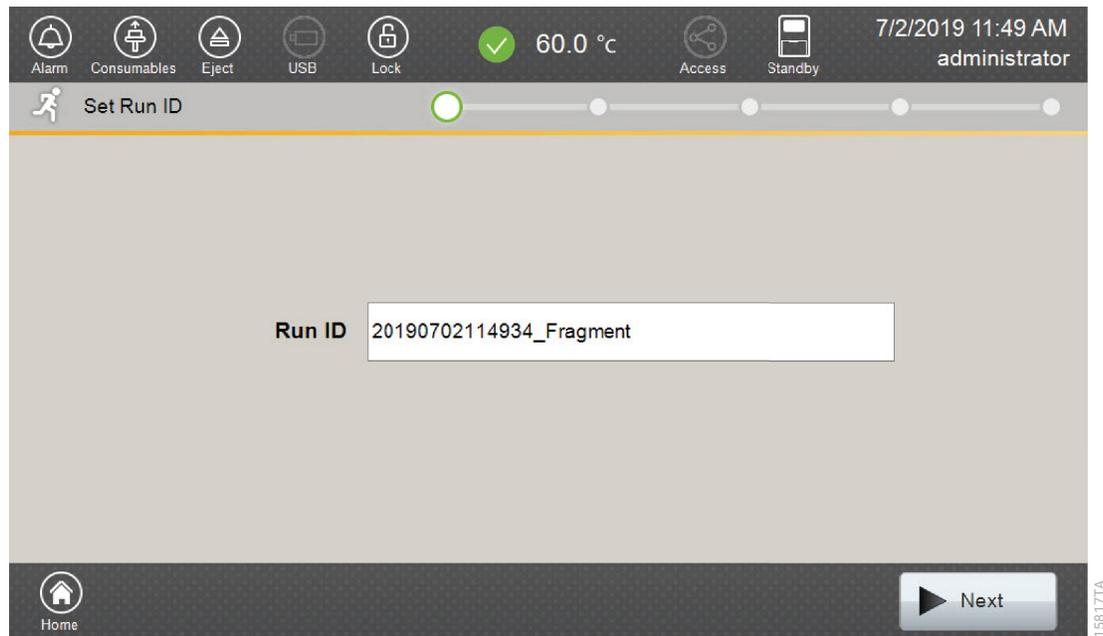

Figure 8. 'Set Run ID' screen.
4. Use the default name that includes date, time and 'Fragment' or enter a Run ID on the 'Set ID' screen (Figure 8). Select the Run ID box to open the 'Run ID' window and a keypad will become active on the touch screen. Alternatively, the Run ID can be entered using a traditional keyboard if one is connected to the Spectrum Compact CE System.